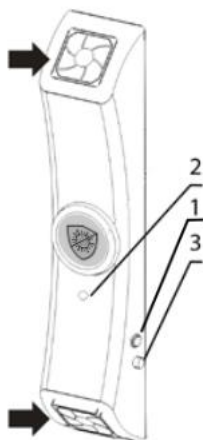

Figure 4. UVR-M overview
- 5.1. Plug the power cord into a grounded mains socket. Switch on the power switch (fig. 4/1).
- 5.2. Unit starts the recirculator automatically. Lit indicator (fig. 4/2) shows that the UV lamp is working.
- 5.4. **Lamp failure.** Check the indicator (fig. 4/2) to see if the lamp is working. To replace the lamp, see **9.3**.